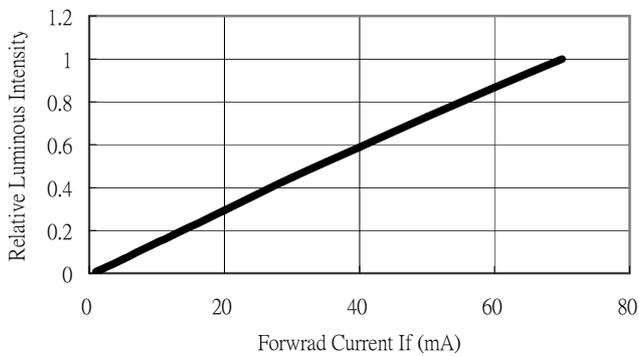

Fig. 4 Relative Intensity VS Forward Current
3. Derating linear as shown in Fig. 4